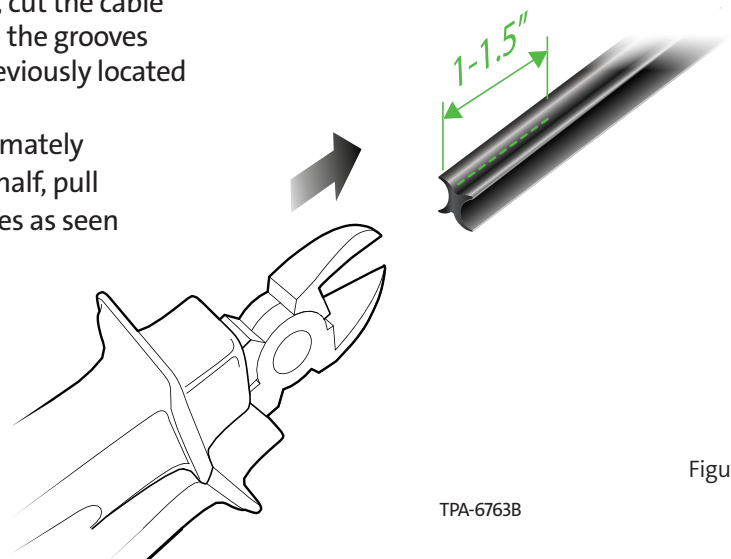

Figure 8
Step 1: Using a pair of scissors or side cutters, cut the cable end square. Then snip the cable end in the grooves where the strength members were previously located (Figure 8).
The length should be enough (approximately 1-1.5 inches) to allow you to grab each half, pull and separate the sheath into two halves as seen in Figure 8.